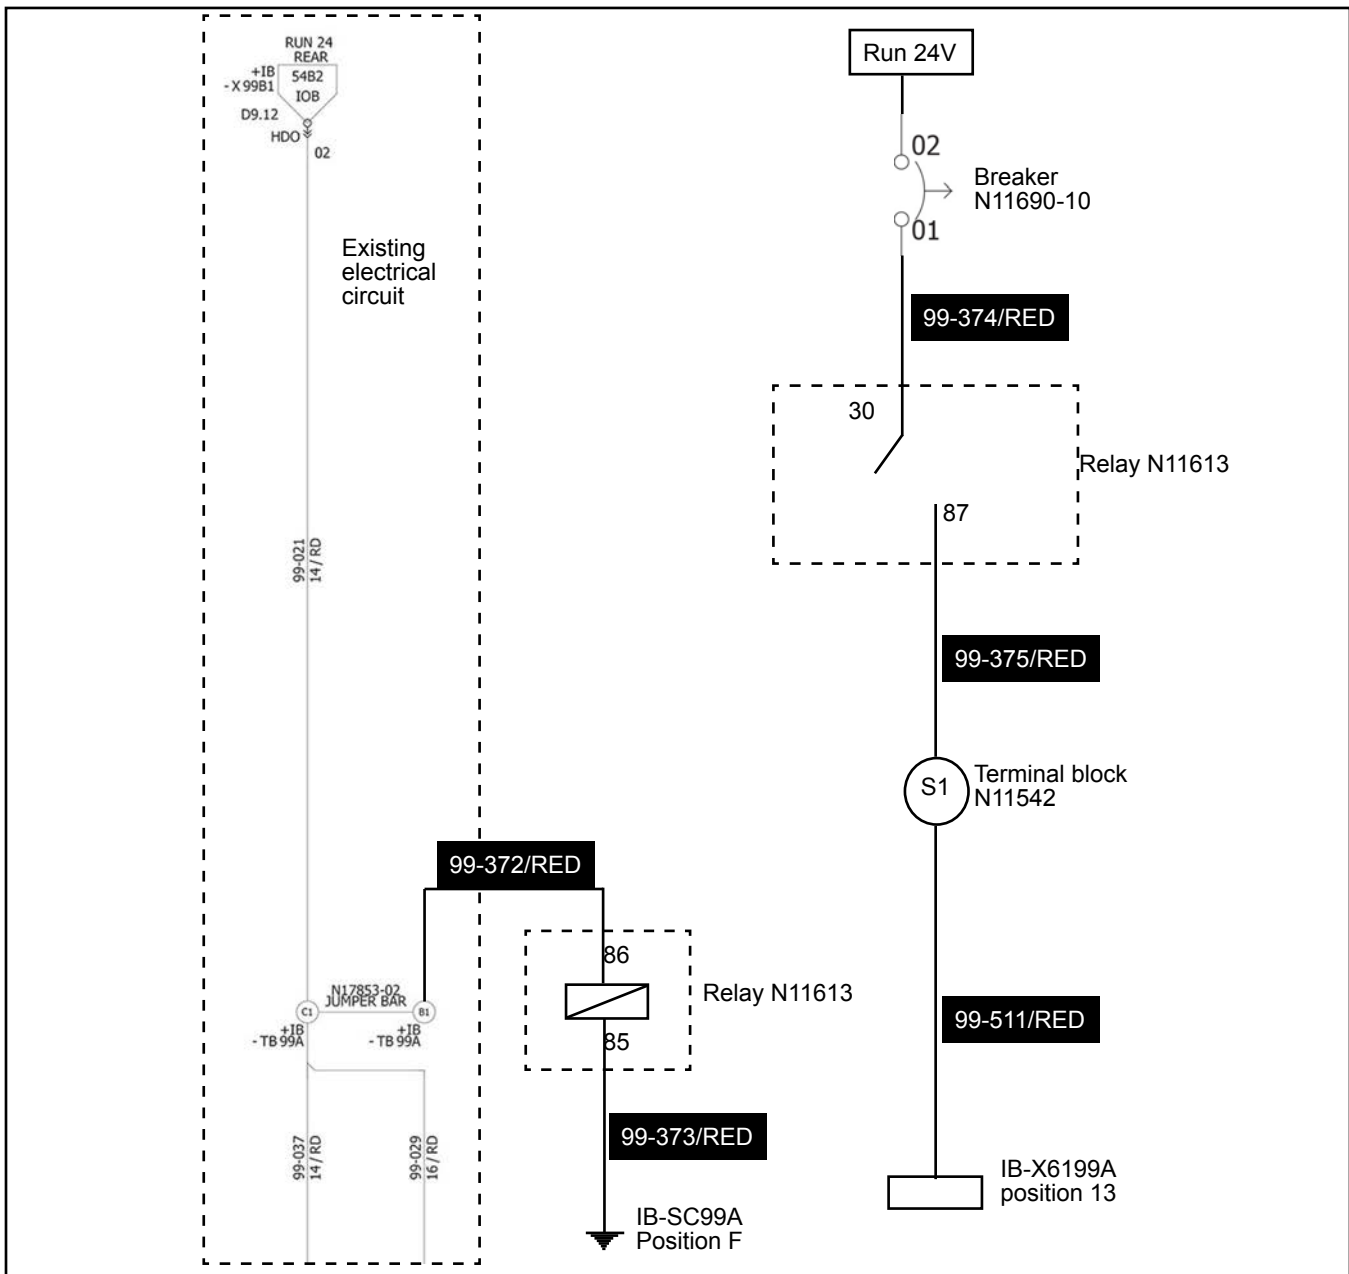

Figure 3 - Wire Positions in Expello Valve - New Electrical Circuit
- 1.11. Route and connect all the wires, previously connected to the socket relay, as identified in Figure 3.
- 1.14. Connect wire **99-511/RED** in position 13 of connector **IB-X6199A** and reconnect connector **IB-X6199A**. See Figure 3.
- 1.15. Route wire **99-511/RED** to terminal block **IB-TB99AS1** and connect the wire. See Figure 3.